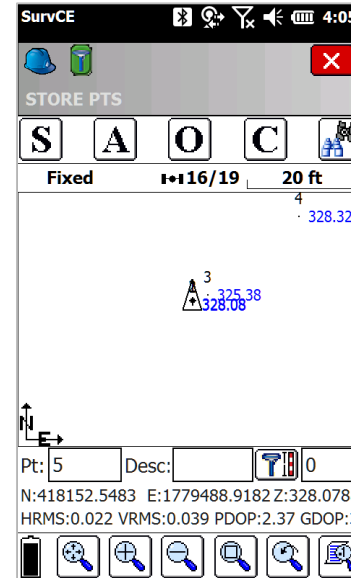

Figure 11
3. Tap the Store button to save the offset point and return to the live map screen. The new point will be displayed (Fig.11)